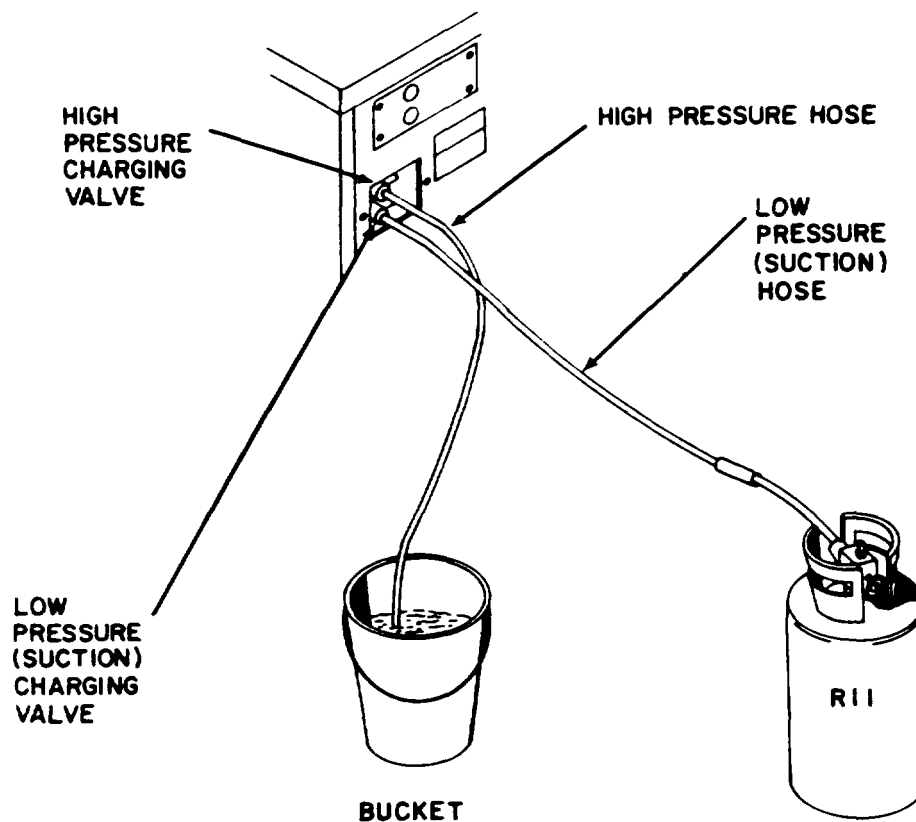

Figure 5-10. Burnout Purging Setup.
- c. **BURNOUT CLEANUP PROCEDURES.** See Figure 5-10.
3. Connect hose from high pressure service valve to a bucket to collect contaminants. Connect a hose from a cylinder of R11 directly to the low pressure (suction) service valve. See Figure 5-10.